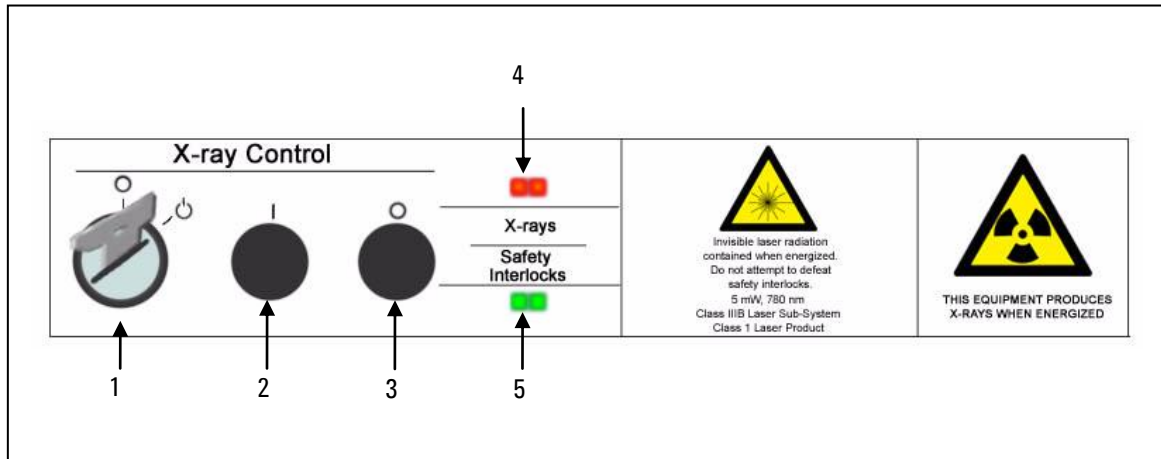

Figure 3 Operator control panel
The operator control panel provides an X-ray Control key and X-ray control buttons as well as status LEDs (see Figure 3). It is attached to the keyboard tray.
On the operator control panel (see Figure 3) verify that the Safety Interlocks green LED is lit. If it is not, call a service technician to resolve the problem.
On the operator control panel (see Figure 3) verify that the X-ray Control key is in the enabled position (1) and press the X-ray Control enable button (1). Verify that the X-rays red LED is lit.